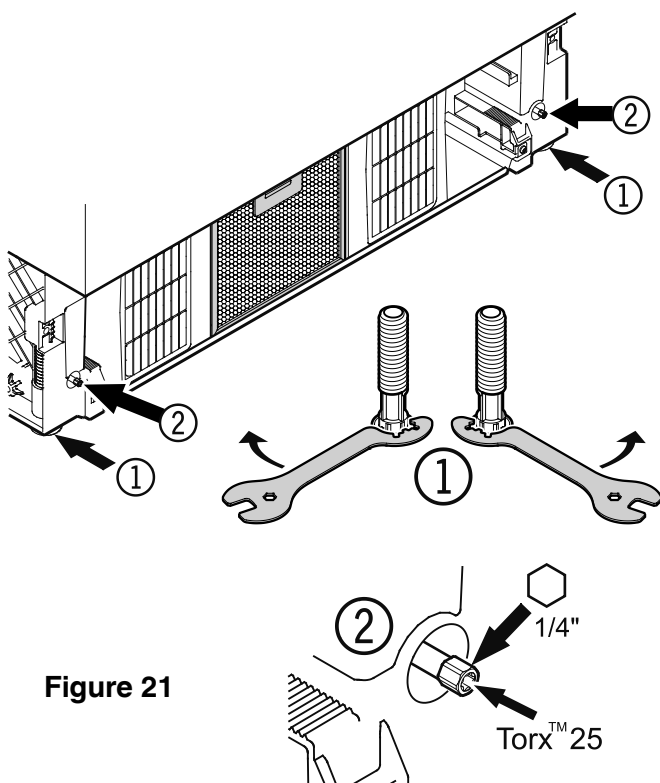

Figure 21
Leveling the Appliance - Figure 21
1. Adjust the height of the appliance at the front by twisting the leveling feet (1). Use the open-ended spanner provided.
Turn the spanner counterclockwise to raise the appliance front and clockwise to lower it. Position the spanner accordingly (**Figure 21 - (1)**).
2. Adjust the height of the appliance at the rear by turning the adjusting bolts (2). Use a 1/4" box spanner or the Torx 25 wrench provided.
3. Rotate leveling feet (1) until firmly in place against the floor.
To prevent the appliance from tipping forward the leveling feet (1) (**Figure 21**) must have contact with the floor.